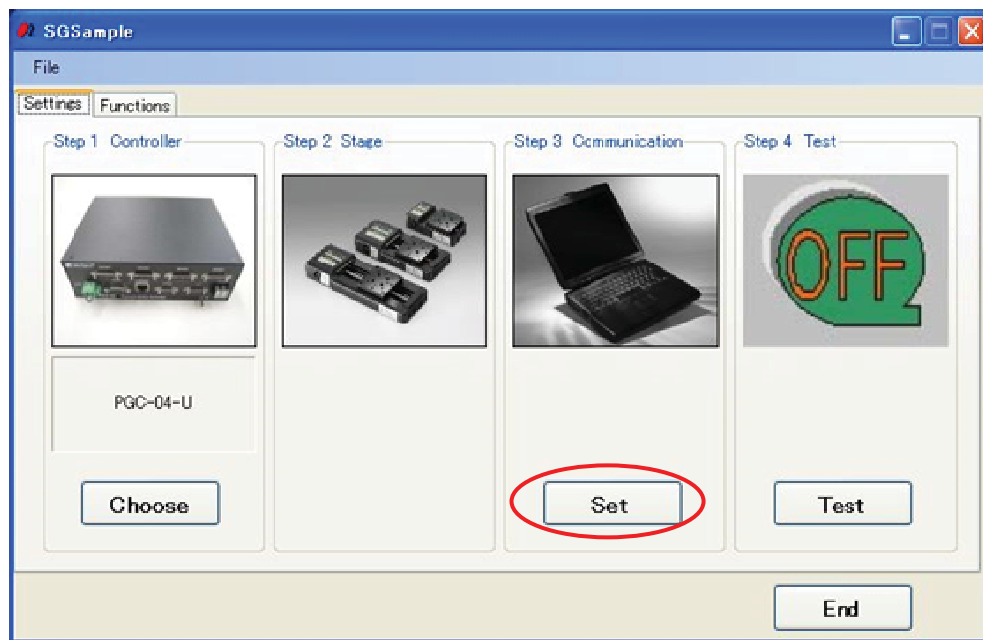

Figure 3-1 : Sample software (SGSample)
3. Please click “Set” tab according to Fig.3-1 and select LAN in interface of communication setting.